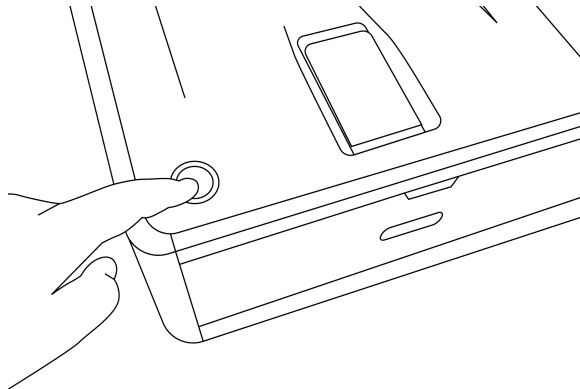

Figure 6-13. Accessing the toner compartment of the Oki printer
- a. Press the circular button on top of the printer in the front left corner to access the toner compartment (Figure 6-13).